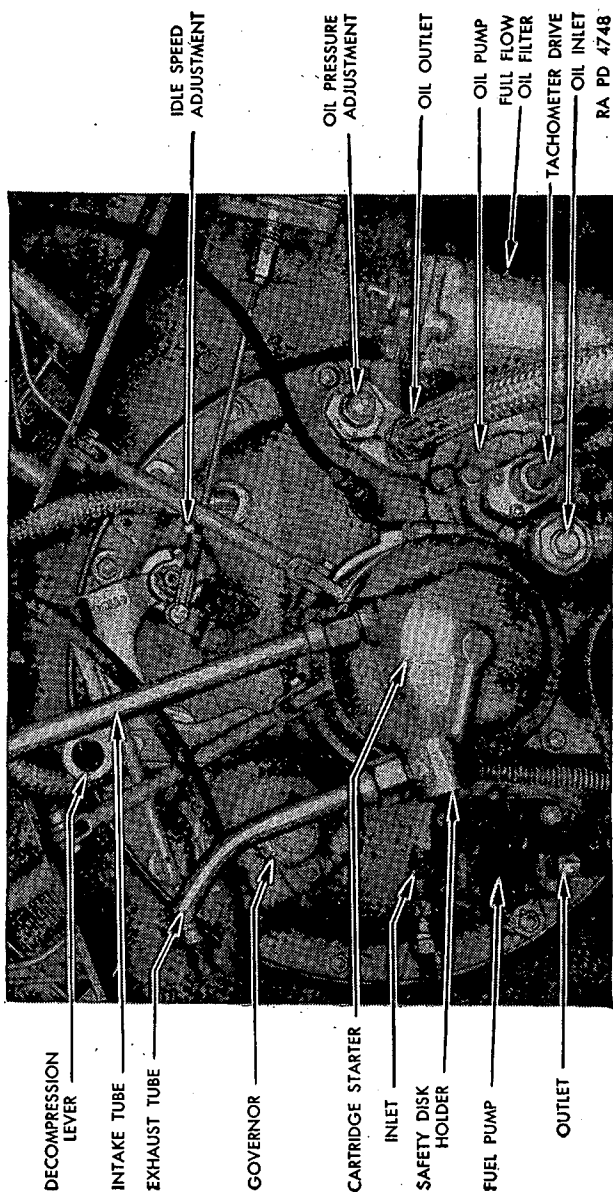

FIGURE 38.—Accessory case, Guberson T-1020, series 4.
64. Accessory case (fig. 38).—The accessory case is an aluminum alloy casting, attached to the rear crankcase, and contains the entire gear train. Standard SAE flange mountings are provided for the starter, generator drive, and fuel supply pump. The accessory case also carries the oil pump, oil pressure relief valve, throttle control shaft, outlet oil connections, and engine vent holes.
b. Replacement.—(1) To replace oil pump assembly:
1. Remove nuts from studs of filter body and lift filter element out of body. This element is easily damaged and should not be dropped or roughly handled (fig. 38).
(3) After 100 hours of operation, replace the breech and starter assemblies.
c. Replace starter assembly.—(1) Disconnect intake and exhaust tubes at starter (fig. 38).
(2) Loosen clamp bolt and nut on starter.
(3) Remove bolts and nuts from clamp end of support arms.
(4) Remove nuts from studs on accessory case holding starter to accessory case.
(5) Remove starter.
(6) To install starter, proceed in reverse order, adjusting tension on support arms by correctly locating the clamp around the body of the starter.
d. Replace breech assembly.—(1) Remove fan guard screen (see par. 60a(7)).